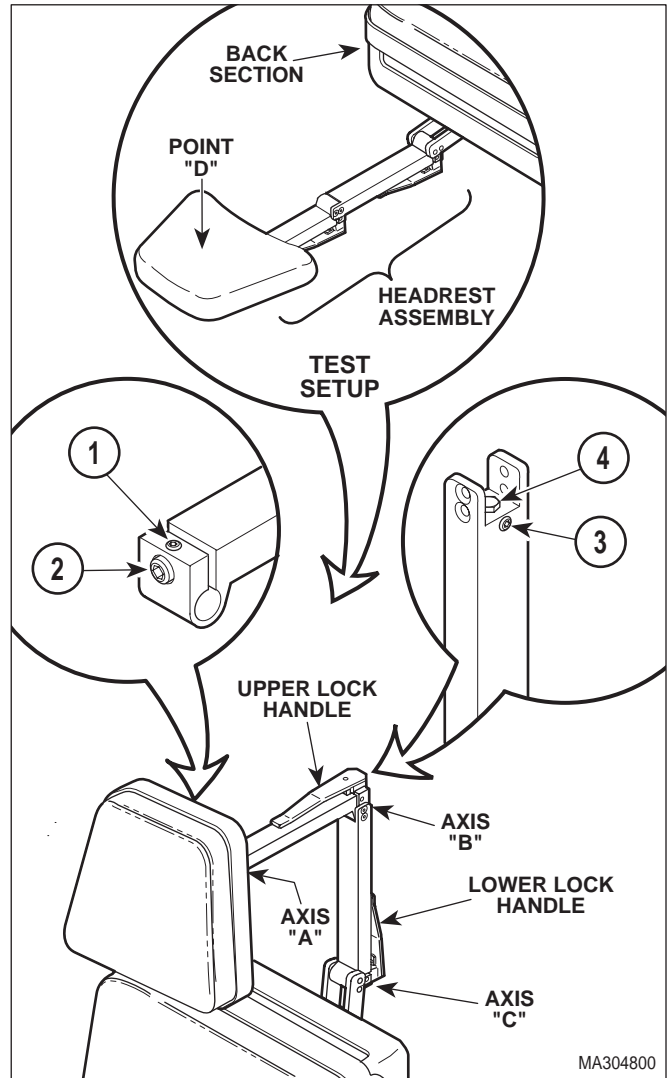

Figure 4-27. Headrest Adjustment
- (1) Unlock upper lock handle (See Figure 4-27).
- (2) Loosen setscrew (1, Figure 4-27).
- (3) Tighten adjusting screw (2) slightly; then lock upper lock handle. Repeat this step until Axis A and B have the strongest possible holding power, but operation of upper lock handle is not too difficult.
- (4) Tighten setscrew (1).
- (5) Unlock lower lock handle.
- (6) Loosen setscrew (3).
- (7) Tighten adjusting screw (4) slightly; then lock lower lock handle. Repeat this step until Axis C has the strongest possible holding power, but operation of lower lock handle is not too difficult.
- (8) Tighten setscrew (3).
- (9) Lower BACK DOWN function all the way down.